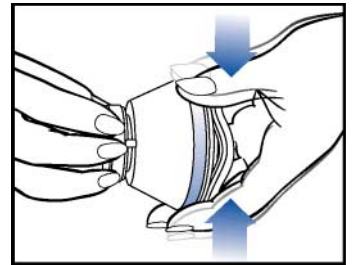

Figure 4
4. To disassemble Express Cup, gently pinch outside edge of liner at wide end, removing from groove. See **Figure 4**.